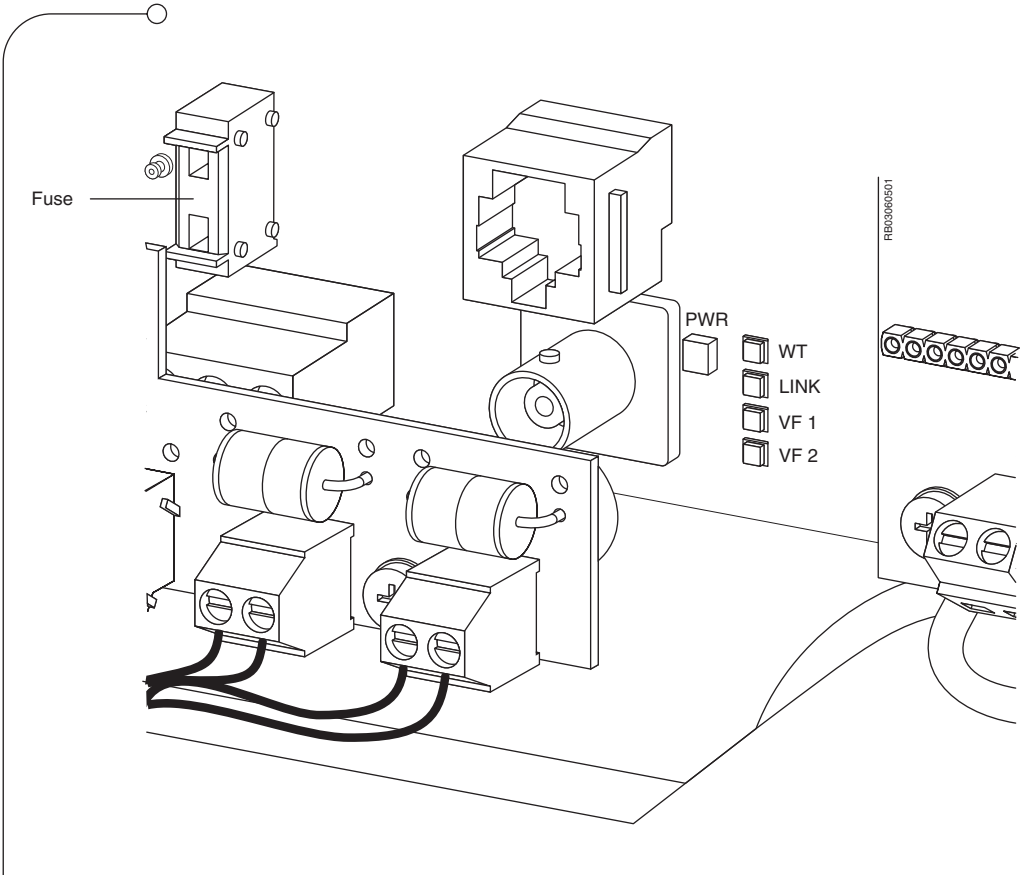

Figure 3.11 STS Fuse Location
1. Install the STS fuse as shown in Figure 3.11 on page 45.